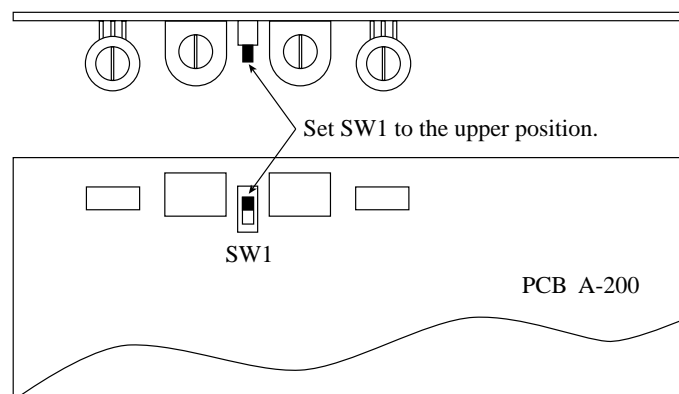

Fig. 4-12 SW1 on the PCB A-200
4. Set SW1 on the PCB A-200 to the upper position. See Fig. 4-12.